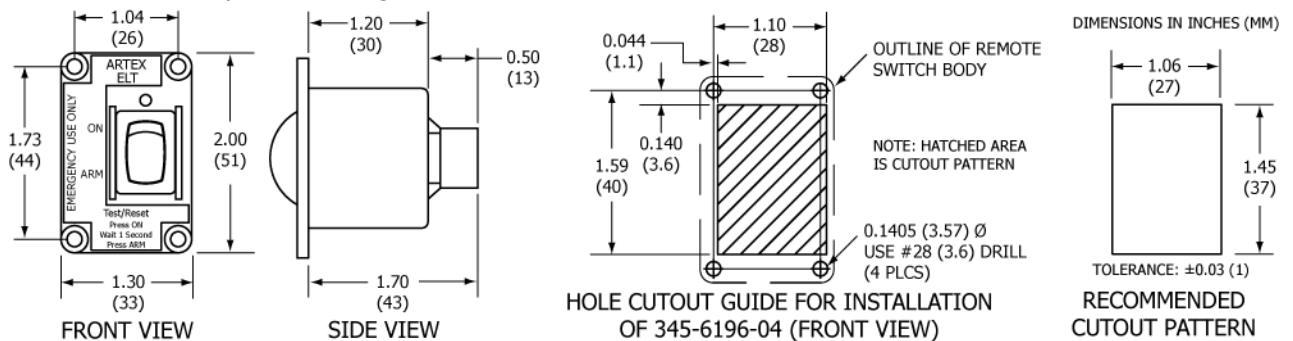

Figure 18 Remote Switch Outline and Dimensions
- 3) The switch assembly requires a space approximately 2.0 x 1.3 in. (51 x 33 mm) on the panel surface and behind the panel. See Figure 18 Remote Switch Outline and Dimensions.